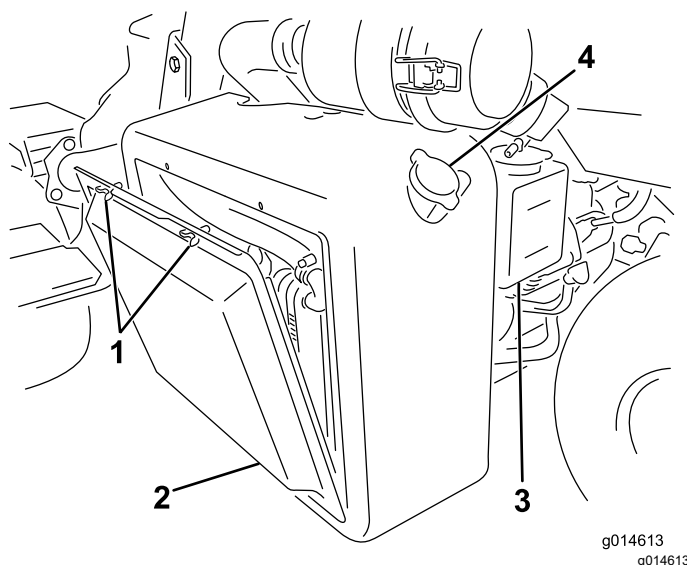
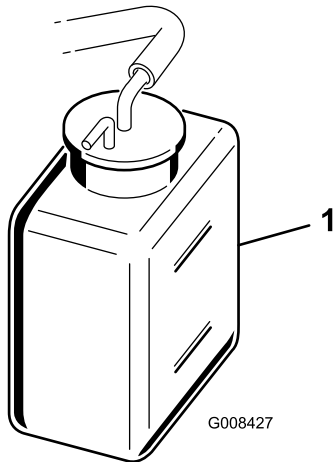

Figure 41
Figure 42
1. Remove the radiator screen (Figure 41).
2. Check the coolant level (Figure 41 and Figure 42).